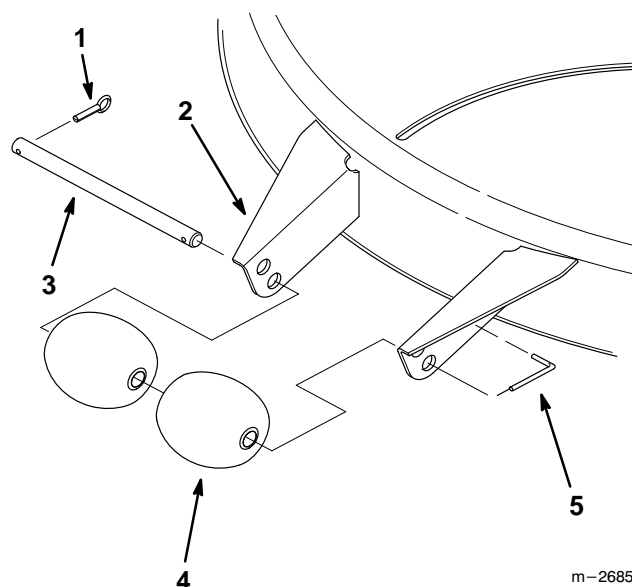

Figure 10
1. Remove the cotter pin from the roller shaft (Fig. 10).
2. Slide the roller shaft out of the bracket holes (Fig. 10).
3. Align the two front rollers with the top holes in the brackets, then reinstall the roller shaft (Fig. 10).
4. Reinstall the cotter pin into the roller shaft. Make sure the special L-shaped pin is installed through the roller shaft, and into the hole in the bracket (Fig. 10).